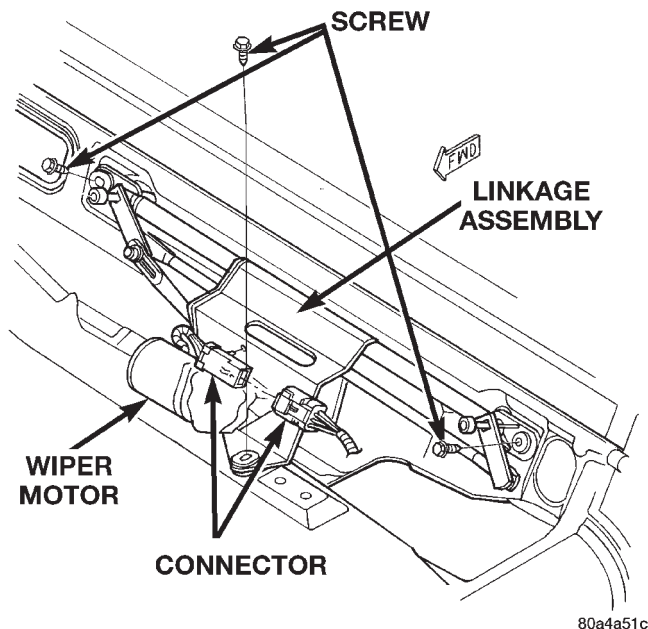

Fig. 11 Wiper Module Assembly Remove/Install
(9) Reach into the cowl plenum and unplug the wiper motor wire harness connector.
(10) Remove the three screws that secure the wiper module mounting bracket to the cowl plenum panel (Fig. 11).